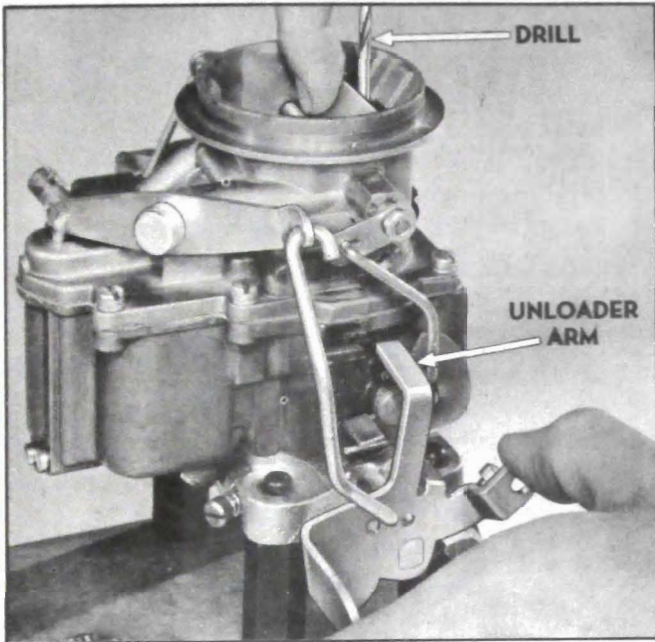
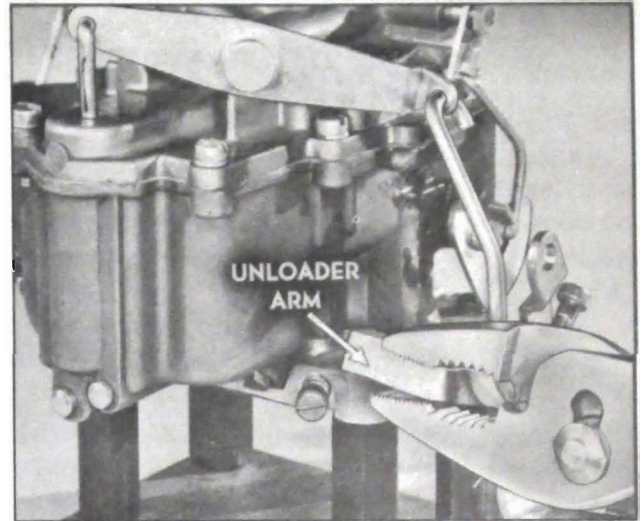

Figure 3-68—Checking Choke Unloader Adjustment
Figure 3-69—Adjusting Choke Unloader
depressing the accelerator to the full extent of its travel. This causes an arm on the throttle lever to contact and rotate the choke unloader plate. This pulls down on a link and forces the choke valve partially open. See figure 3-69.
8. Hold choke closed with a light pressure. Fully open throttle so that unloader arm on throttle lever kicks choke partially open. Measure clearance between upper edge of choke valve and wall of air horn using a No. 27 drill. See figure 3-68. If clearance is not as specified, correct by bending unloader arm on throttle lever. See figure 3-69.